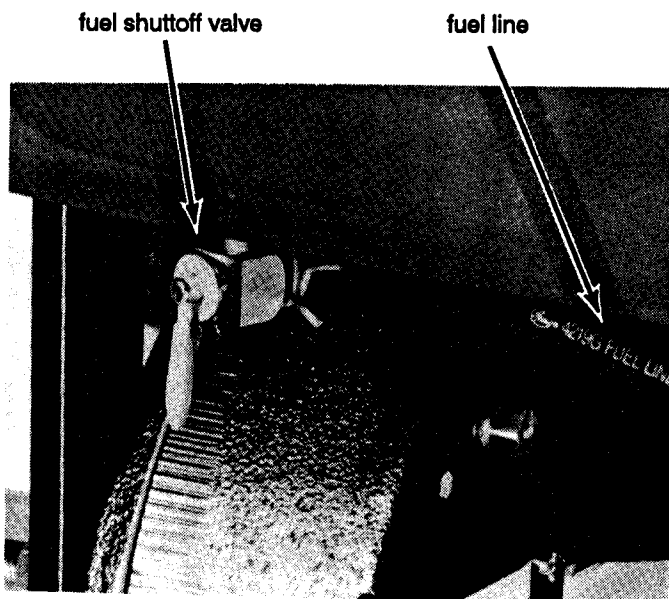

Figure 21. Fuel shutoff valve and fuel line.
3. Close the fuel shutoff valve (Refer to Figure 21) and run engine until fuel in carburetor is used up.
4. Using a pair of notched pliers on the hose clamp, disconnect the fuel line from the fuel shutoff valve. (Refer to Figure 21) Drain fuel line into a suitable container.